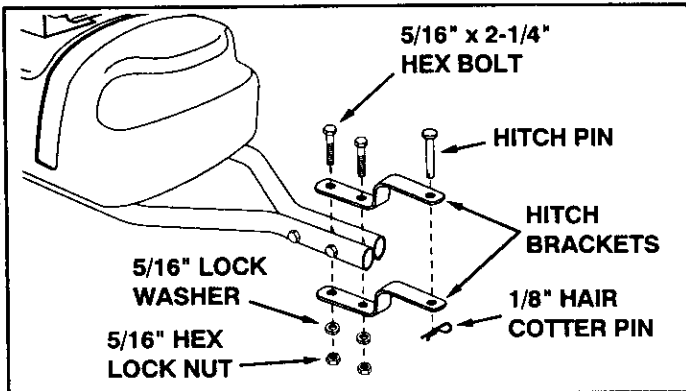

FIGURE 3
- Assemble the two hitch brackets to the front of the hitch tubes using two 5/16" x 2-1/4" hex bolts, 5/16" lock washers and 5/16" hex lock nuts. **Do not tighten yet.** See figure 3.
- Assemble the hitch pin to the hitch brackets and secure it with the 1/8" hair cotter pin. See figure 3.
- **Tighten** the two bolts which fasten the hitch brackets to the hitch tubes. See figure 3.